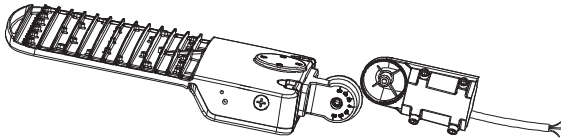

Figure 1
- 1 Separate the slip fitter into two pieces. (Figure 1)
- 2 Feed the fixture cord through the slip fitter that will mount to the fixture. (Figure 1)